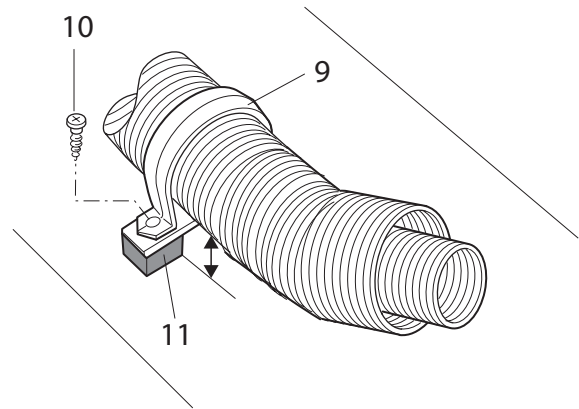

Fig. 14
- A possibility is to put a spacer (Fig. 14 – 11) (not in scope of supply) underneath the ZRS clamp (Fig. 14 – 9) as shown in Fig. 14.